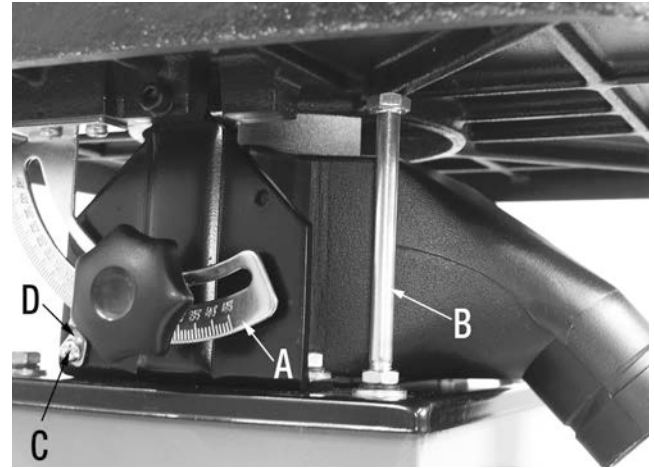

FIGURE 11
1. Set the table to a flat horizontal position. The table tilting scale (A) Fig.11 should read zero degrees.
3. If the table is not 90° to the drum, adjust the angle of the table by changing the height of the stop bolt (B).
4. If the table is 90° to the drum, but the scale (A) does not read zero degree, set the scale to read zero degree by loosening the screw (C) on the angle pointer (D) and setting pointer to zero.